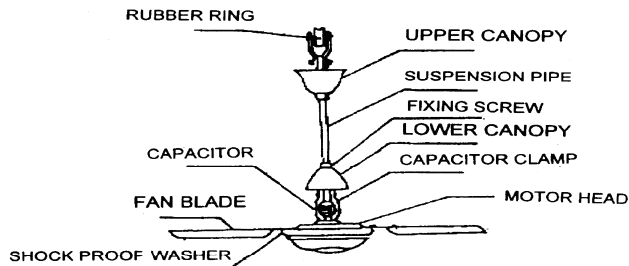

FIGURE 1
4. Tie the safety wire as shown in Figure 1~3 and screw safety wire to the pipe firmly.